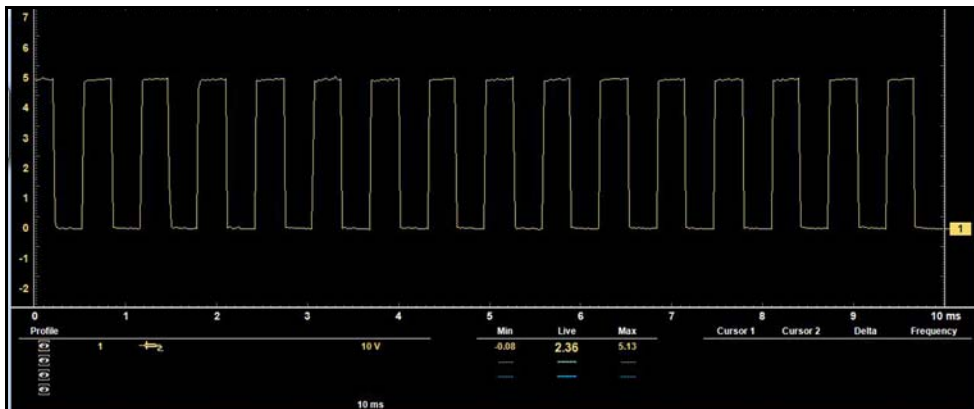

Figure 8-30
- **Expanded**—a limited set of control settings are displayed and the Min. Max. Live and Cursors panels are displayed (Figure 8-30)